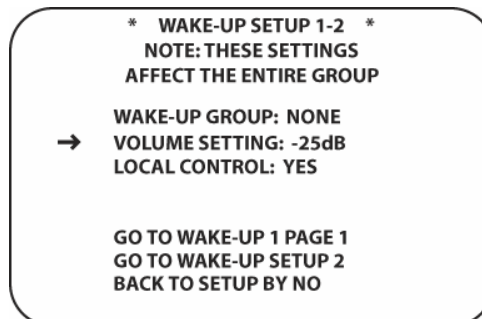

Figure 115 Wake-Up Setup 1-2
3. To continue Setup, press the **▼/▲ Navigation Button [oval 16]** to position the cursor next to **GO TO WAKE-UP 1 PAGE 2**. Press the **Set Button [oval 18]**. The **WAKE-UP SETUP 1-2** screen will appear. (**Figure 115**)